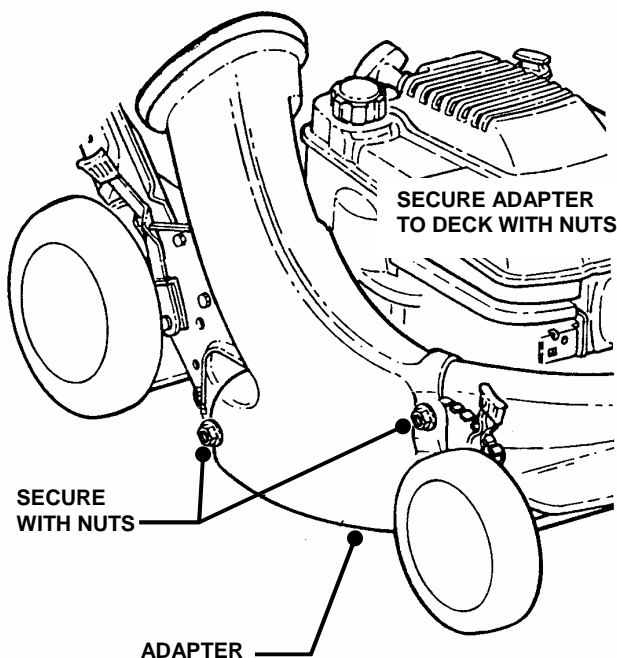

FIGURE 2.9
**STEP 1:** Install the grass bag adapter and secure to the side and top of the deck with the two nuts provided on the machine. Slot in front edge of adapter must be under nut located on top of deck. See Figure 2.9.